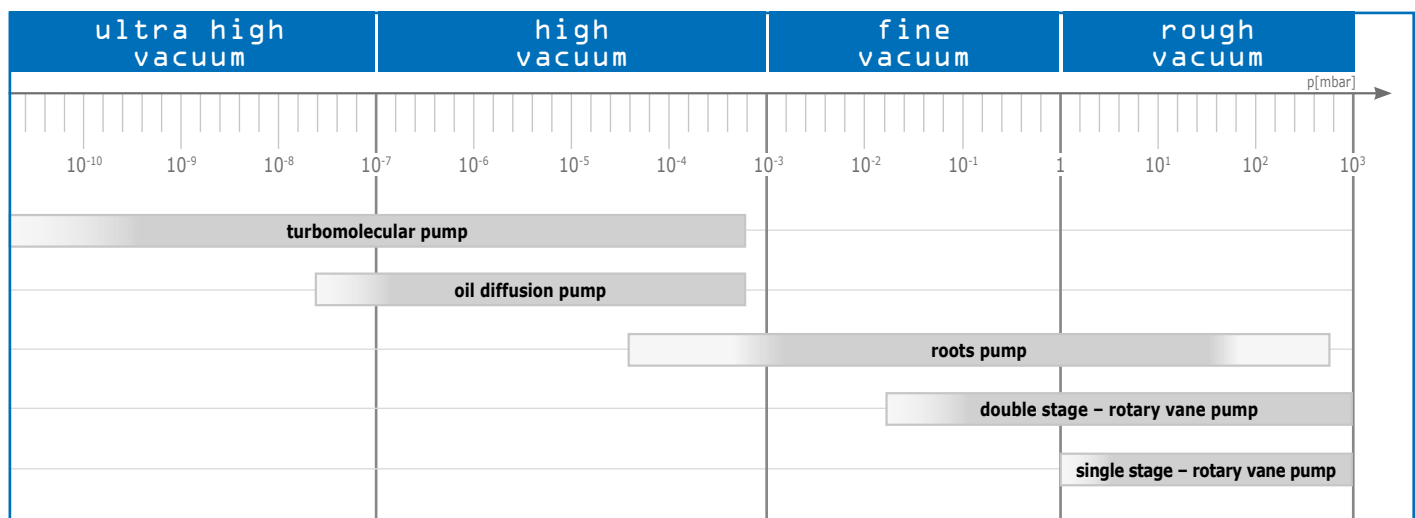

Figure 1
- 1. Vacuum:** Pumps are configured and installed to achieve the working pressure required. (see Figure 1)